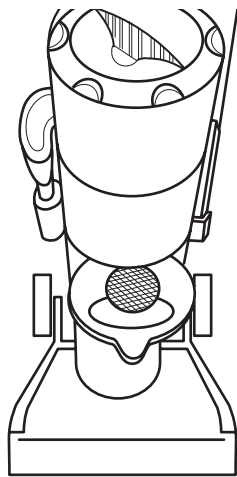

Figure 12a
3. Press down on the Handle at the top of the Collection Bin. Pull outward until the Bin releases from its locked-in storage position inside the Storage Compartment. (See Figure 12a.)